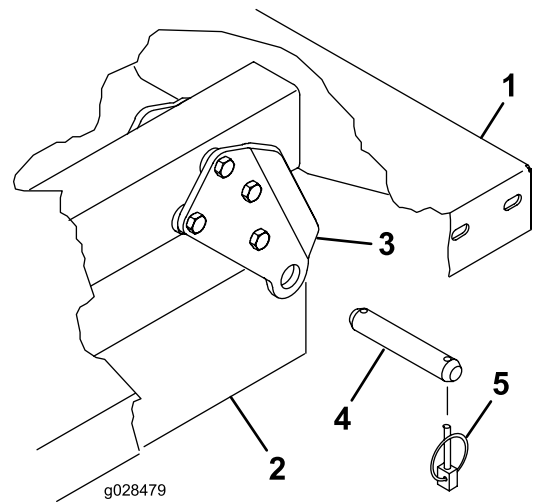

Figure 4
2. Carefully set the bed onto the vehicle frame and align the rear bed pivot bracket holes with the holes in the rear frame channel (Figure 4).
3. Secure each set of pivot brackets to the frame channels with a clevis pin and 2 lynch pins (Figure 4).